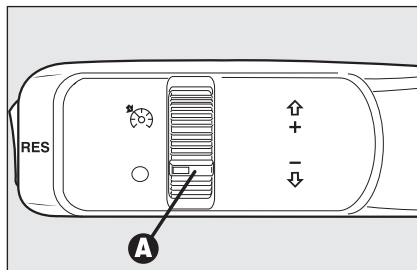

fig. 57
Turn knurled ring **A-fig. 57** to .
- turn the knurled ring **A-fig. 57** to  and press the accelerator pedal to the required speed;
- turning the knurled ring **A-fig. 57** to **O**;
*In the event of device malfunction or failure, turn the knurled ring **A**-fig. 57 to **O** and contact Alfa Romeo Authorized Services after checking the protection fuse integrity.*